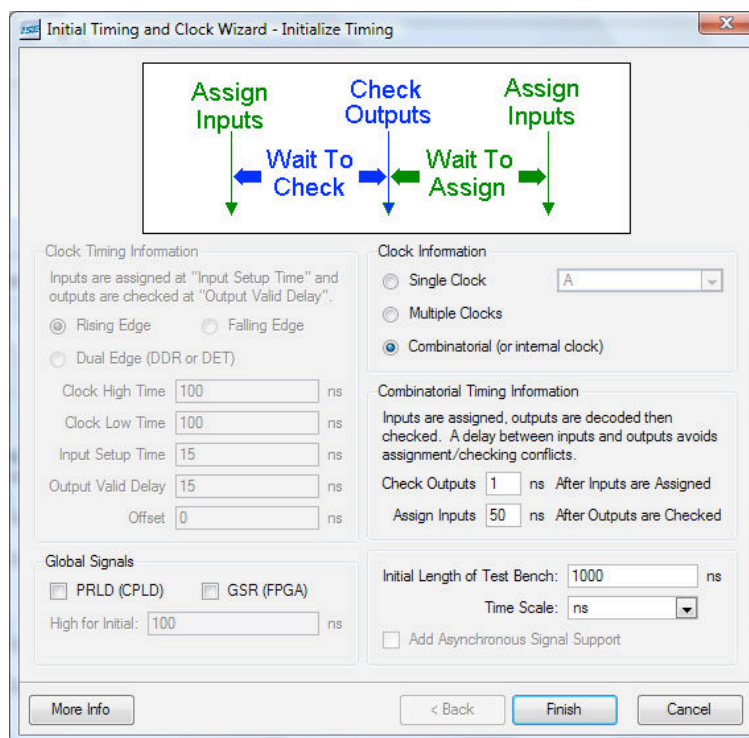

Figure 7. Initial Timing and Clock Wizard Dialog Window
- Configure the test bench timing parameters as in the window shown in Figure 7.